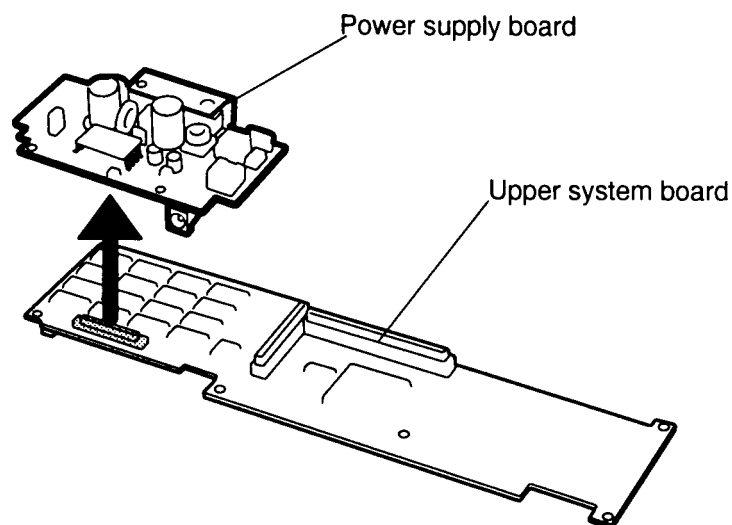

Figure 4-27 Removing the power supply board
8. Turn the **upper system board** over and remove the **power supply board** (Figure 4-27).
To install the T4850CT's upper system board and power supply board, follow the steps below and refer to Figures 4-27 back through 4-25.
1. Connect the **power supply board** to the **upper system board** (Figure 4-27).